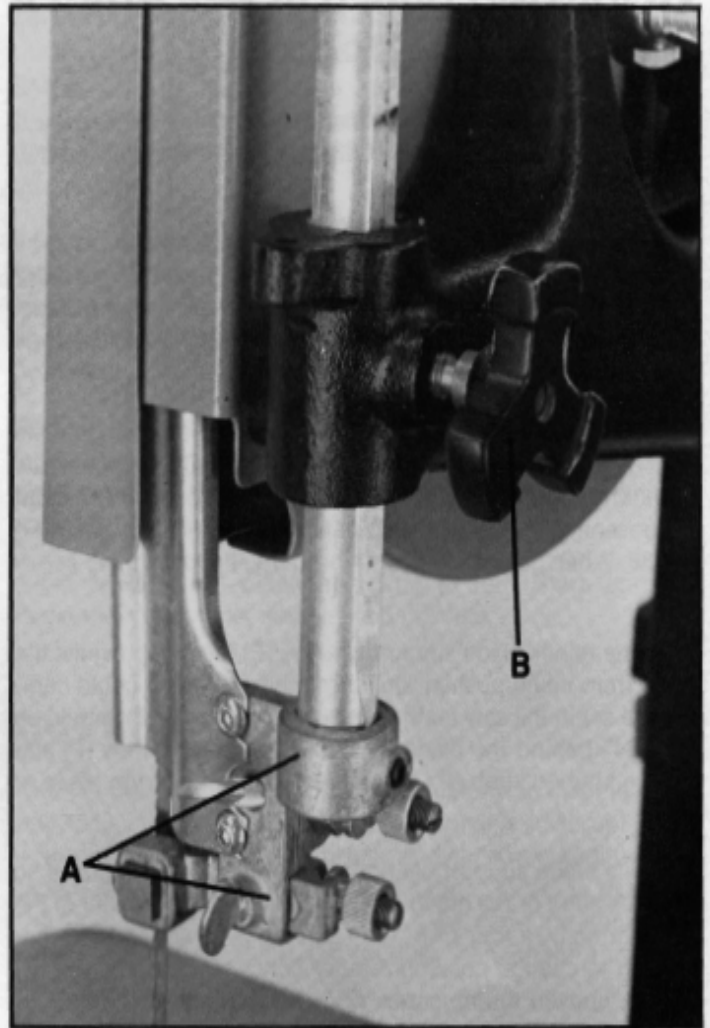

Fig. 34
The upper blade guide assembly (A) Fig. 34, should always be set as close as possible to the top surface of the material being cut by loosening lock knob (B) and moving the guide assembly (A) to the desired position.